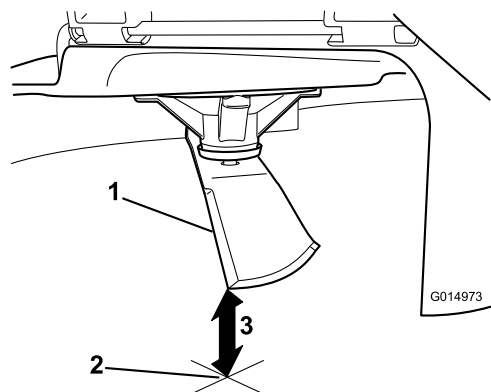

Figure 79
5. Measure from the tip of the blade to the flat surface (Figure 79).